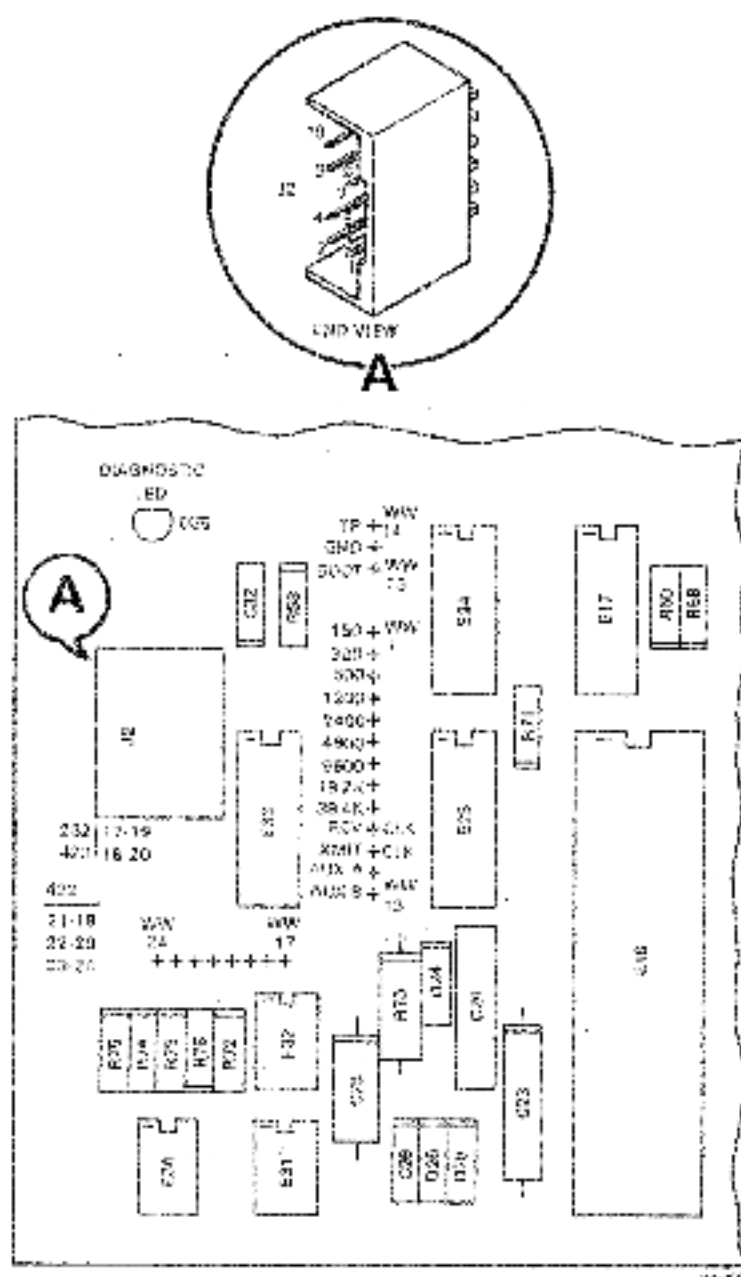
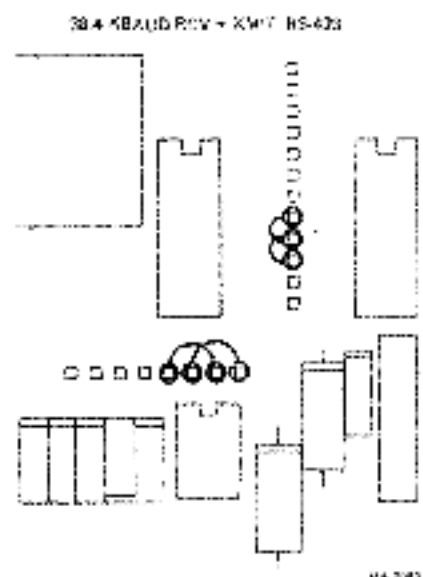

Figure 4-20 Interface Selection Jumper Pin Locations
Figure 4-21 Factory Wiring
The baud rates may be set independently for transmission and reception, or both can operate together. Simply connect the pin with the desired baud value to either the XMIT or RCV pins or both. Figure 4-20 illustrates the pin locations, and Figure 4-21 the factory-wired configuration.
The interface standards may be selected by connecting sets of pins together. The connections are listed in abbreviated form in Figure 4-20. The group of pins 17 through 24 are the interface pins. The module is shipped prewired for RS-423 with pin 17 connected to pin 19, and pin 18 connected to pin 20. No other pins in the group are connected.
This section lists the switch or jumper configurations recommended for DIGITAL's asynchronous serial interface modules. These modules connect the LSI-11 QBus or the PDP-11 UNIBUS to the TU58's serial interface. Each module is configured to run at the fastest speed possible (either 9600 or 38400 baud), at the standard bus address (176500) and vector (300) for the TU58. For other speeds or addresses, read the manual for the specific interface. And for TU58 configuration, see Figures 4-21 and 4-22. The interface requirements are as follows.